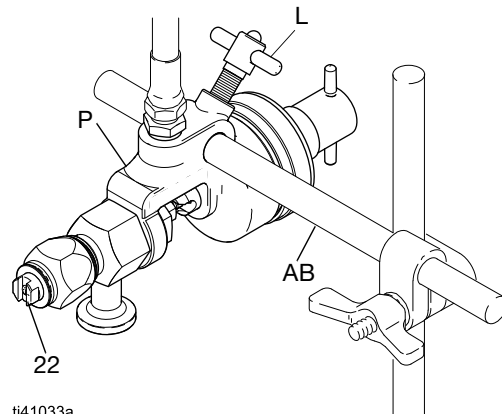

FIG. 2: Mounting Rod
1. Ensure that the mounting setup can support the weight of the spray gun (P), system components, and accessories, as well as the stress caused during operation.
2. Mount the spray gun (P) on a rod (AB) with a diameter of 0.50 in. (12.7 mm). See FIG. 2.
3. Tighten the tee handle (L) to secure the spray gun (P) in place.
NOTE: Ensure that the tip (22) of the spray gun (P) is 12 in. (305 mm) away from the surface of the workpiece (V). See FIG. 2.